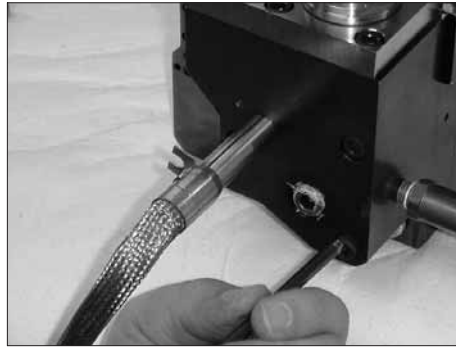

Figure 7-99 Securing the filter block
4. See Figure 7-99. Using an M5 hex wrench, secure the filter block to the applicator. Tighten the screws to 12.4 N•m (110 in.-lb).